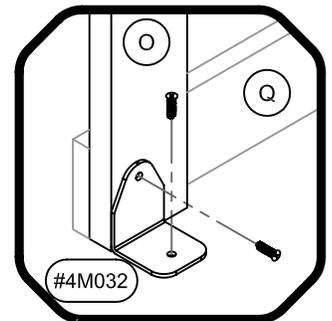

Fig. 11
Attach (1) L-bracket to Tarp Upright 'O' on Slide wall and to floor as shown in Fig. 11. Only the Tarp Upright 'O' on the Slide wall will take an L-bracket.